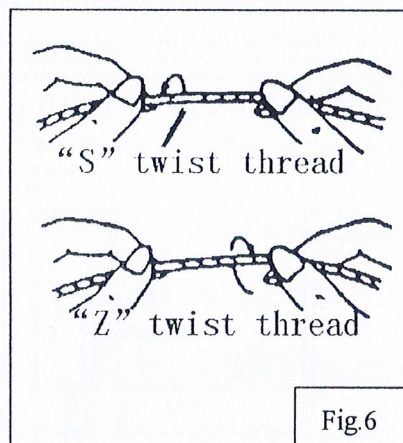

Fig.6
3. Selection of Thread (Fig.6) :